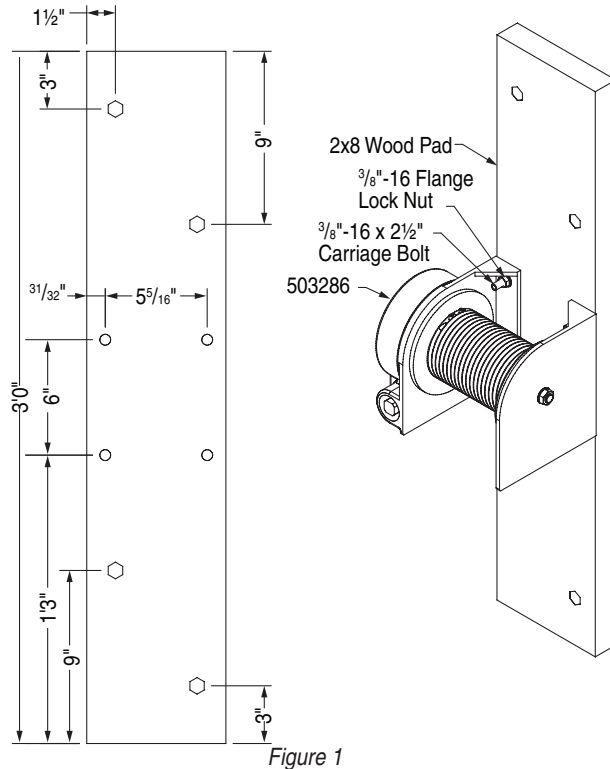

Figure 1
- ① Find installation location according to project drawings
- ② Four 7/16" diameter holes are provided for mounting the winch. It will be necessary to remove winch cover during installation. Attachment hardware will vary based on field conditions
- A) To mount to 2 x 8 x 36" wooden wall pads - Locate winch at center of wood pad with the pad running vertically. Mark and drill 13/32" holes and attach using 3/8"-16 x 2 1/2" carriage bolts and flange lock nuts. Anchor wooden wall pad per Draper recommendations and using hardware that is appropriate for wall construction and field conditions (see Fig. 1).